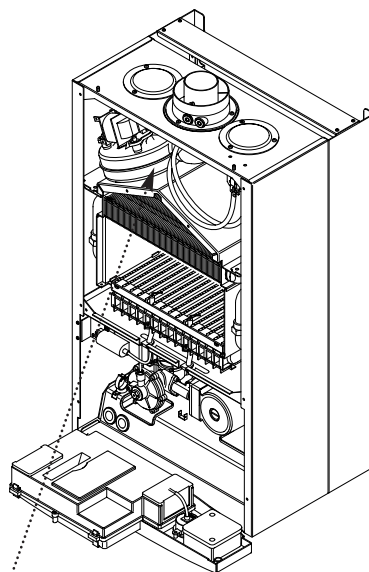

Fig. 48
6. Remove the screws securing the inner door panel. Lift the panel slightly to disengage it from the studs on top of the case (Fig. 48).
9. Remove the four screws securing the combustion box door and remove the door (Fig. 48).